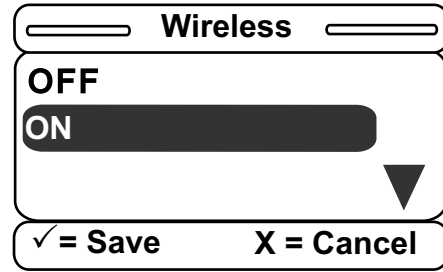

Figure 43 – Wireless menu
19. After you select the Wireless option, the Wireless menu displays (Figure 43). You can set the Wireless option to ON. Press **Enter** on the footboard panel to make your selection or **Exit** to cancel the operation.